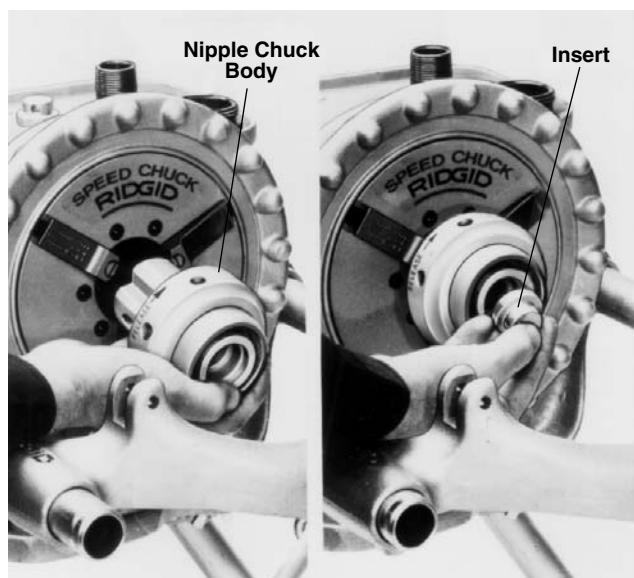

Figure 23 – Installing Nipple Chuck Body and Insert
3. Place nipple chuck body (Figure 23) in Power Drive chuck, gripping jaw grooves. Tighten chuck with snap spin of handwheel.
4. Position insert (Figure 23) with small end toward chuck body for $\frac{1}{8}$ " to $\frac{3}{4}$ " pipe; large end toward chuck body for 1" pipe; no insert required for $1\frac{1}{4}$ " pipe and up.